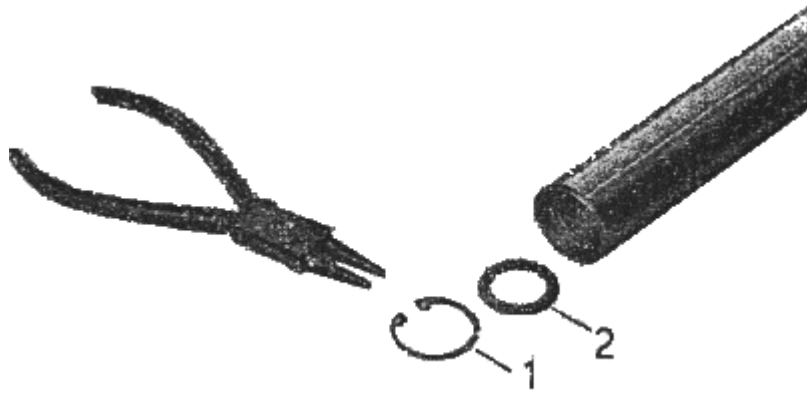

Fig. 94. Removing the check plate (2 mm in thickness)
- Check the supporting tube (2 in Fig. 96) for damage. The Miramid piston ring (arrow) must not show any ridges on the sealing surface, otherwise the damping pressure would be too low. The damping hole (1) of the supporting tube must be free from burr and its diameter must not be changed.
- The supporting tube (2 in Fig. 96) is pushed into the tested guide tube (A) from below (valve side); prior to this, the Miramid piston ring is fitted with shockabsorber oil.
According to Fig. 94, mount the check plate (2) and the lock ring (1). Take care that the lock ring is properly seated.